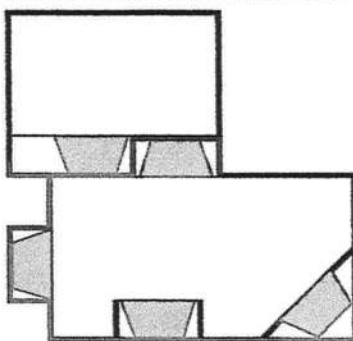

Figure 1
- Minimize modifications to existing construction. See *Figure 1* for location suggestions.